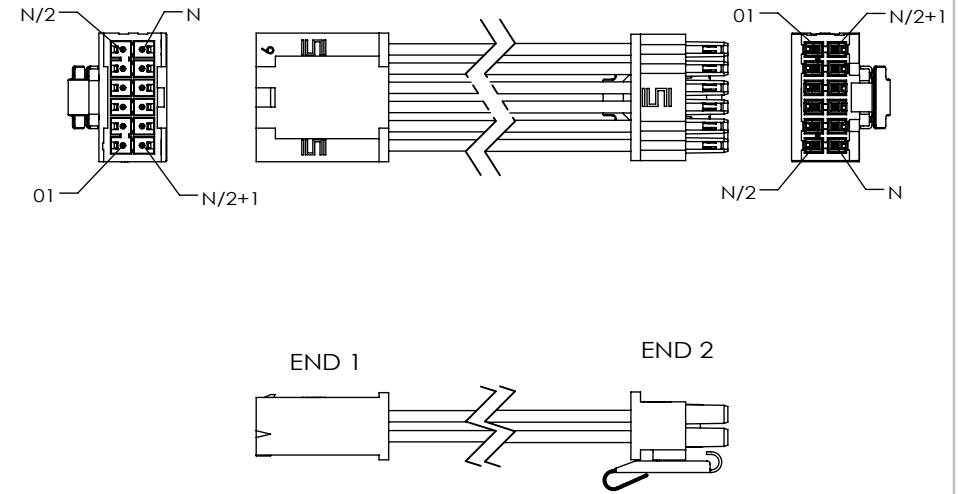

FIG 3
-TDS: TRANSFER LATCH DOWN, STRAIGHT (SEE FIG 3, SHEET 2)